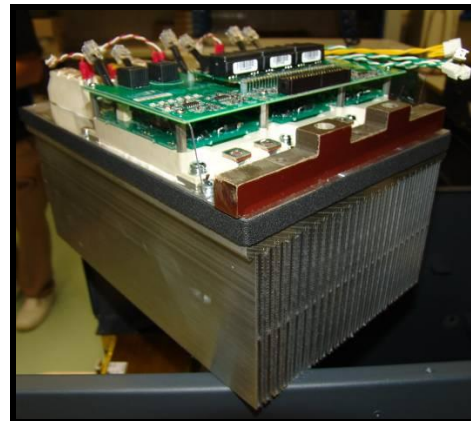

Figure 7.4.26
See the figure 7.4.26 while following the next instructions:
- 2) Put them over the heatsink, matching the holes of the thyristor with the holes of the heatsink as the figure 7.4.26 shows.